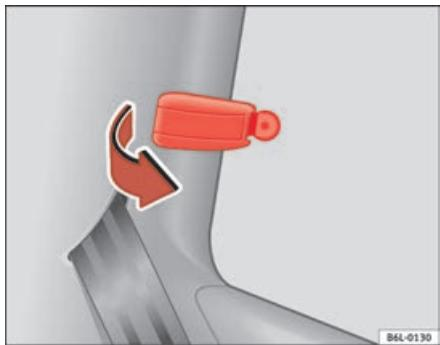

Fig. 53 Release lever for mechanical vent wing
- Pull the release lever \Rightarrow fig. 53 in the direction of the arrow and push it out at the same time until the lever engages. The lever inserts when the deflector is half open or fully open.